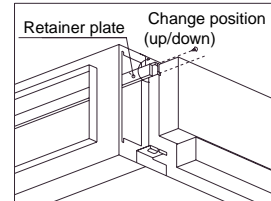

Fig.2
- (2) When using filter box PAC-KE63·80·140TB-F (using filter : high-efficiency filter), change the position (up/down) of the retainer plate. (Fig. 2)